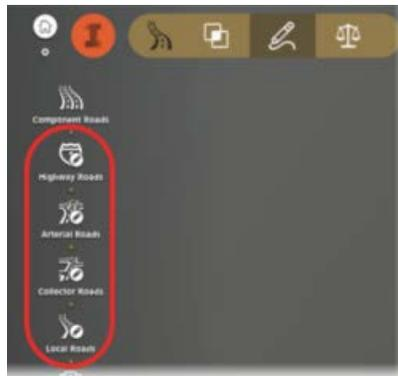

Figure 3
2. Select one of the four road types from the expanded tool group, shown in Figure 3.